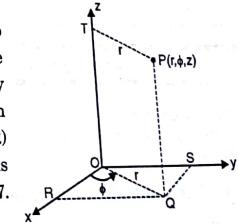

Fig. 6.1.7 : To show co-ordinate transformation
- To find x and y corresponding to $P(r, \phi, z)$, project pt. P on xy plane i.e. point Q. Project OQ on x and y axes. The length of projection on x-axis gives x coordinate (length OR) and length of projection on y axis (OS) gives y coordinate. In Fig. 6.1.7,